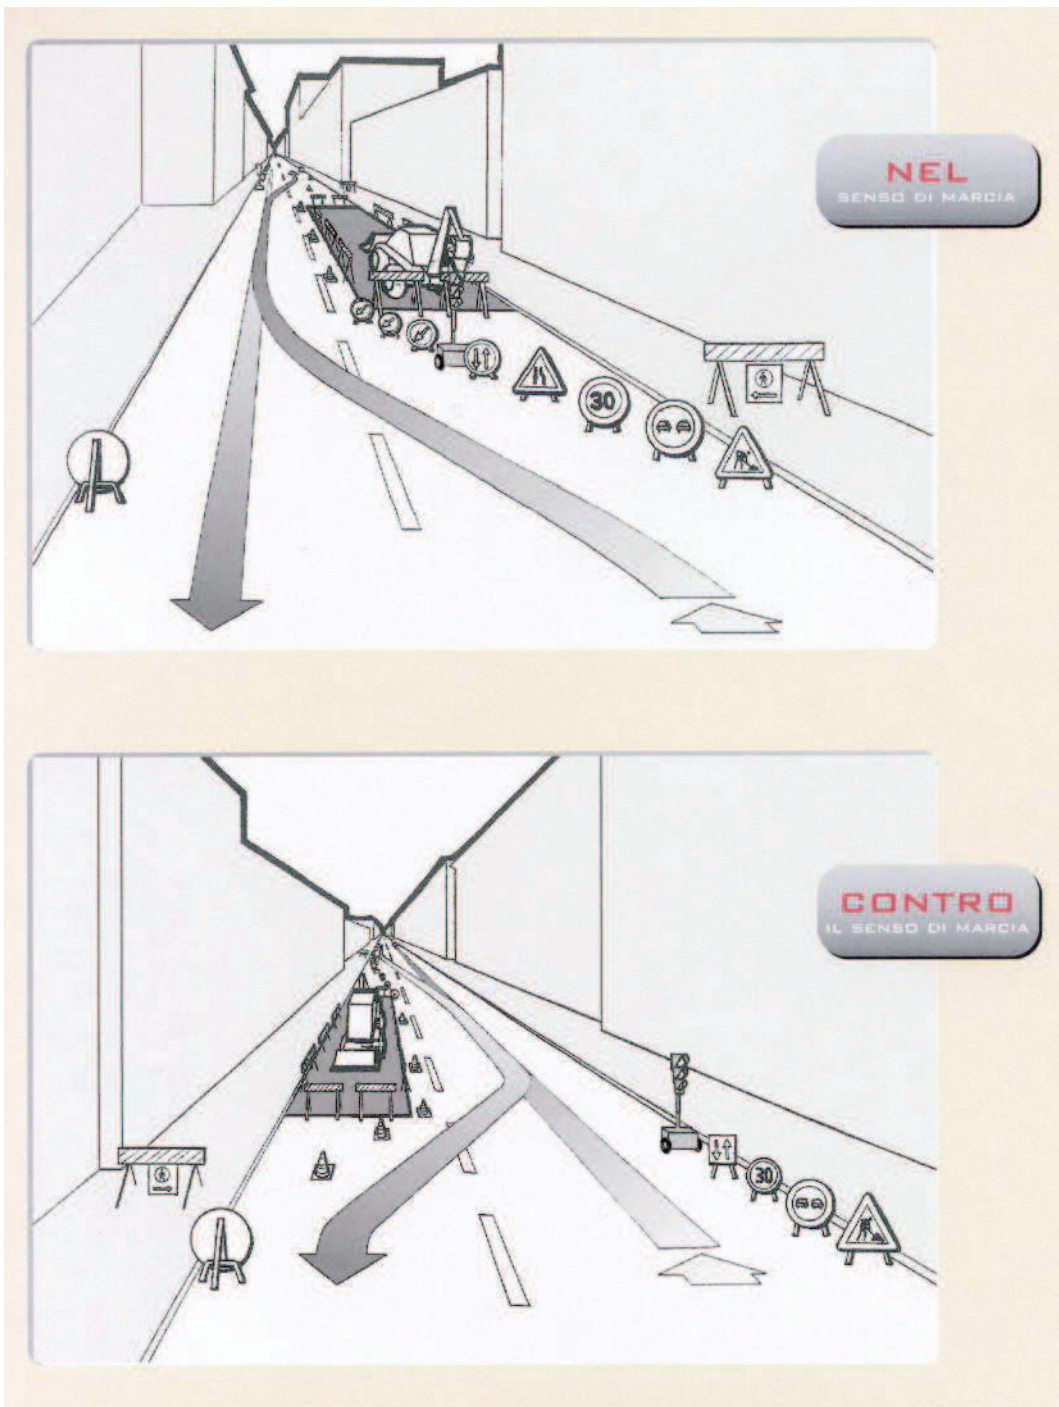

FIGURA 8A – CANTIERE CON SEMAFORI PER SENSO UNICO ALTERNATO. FIGURA DESCRITTIVA.
- FIGURA 8A CANTIERE CON SEMAFORI PER SENSO UNICO ALTERNATO. FIGURA DESCRITTIVA.